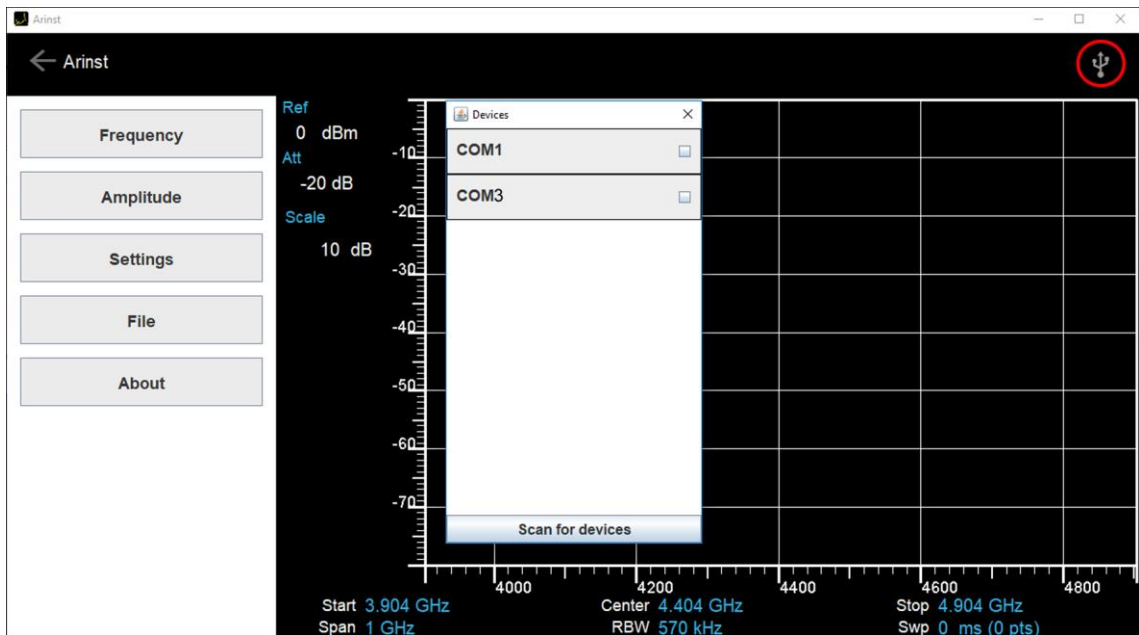

Figure A7 - Connecting the spectrum analyzer to PC
3.3. In the Arinst SSA application window that opens, click on the USB connection symbol located in the upper right corner. In the **Devices** window that appears, select the created virtual port for connecting your device (Figure A7). Browse the PC ports by clicking the **Scan for devices** button.